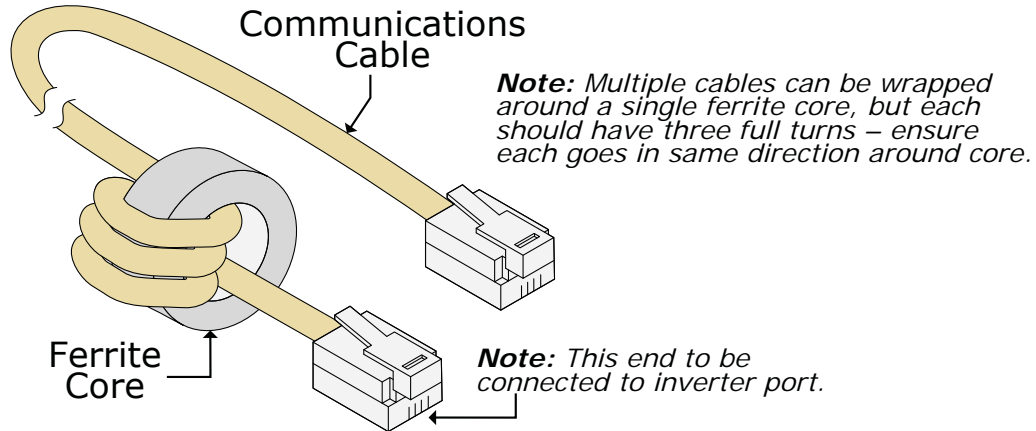

Figure 9, Ferrite Core Attached to a Communication Cable
To attach the ferrite core to a communication cable (Figure 9):
2. While wrapping the cable around the core, ensure the core is located as close as possible to one end of the cable [within 2.5 to 5 cm (1-2 inches) from the end]. The result should look something like Figure 9 below.